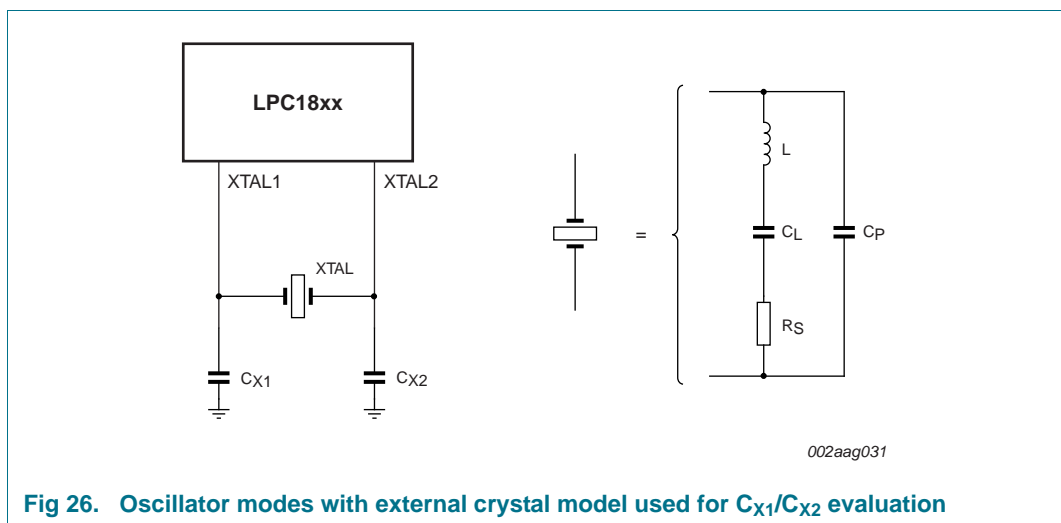

Fig 26. Oscillator modes with external crystal model used for C_{X1}/C_{X2} evaluation
- External components and models used in oscillation mode are shown in Figure 26, and in Table 22 and Table 23. Since the feedback resistance is integrated on chip, only a crystal and the capacitances C_{X1} and C_{X2} need to be connected externally in case of fundamental mode oscillation (the fundamental frequency is represented by L , C_L and R_s). Capacitance C_P in Figure 26 represents the parallel package capacitance and should not be larger than 7 pF. Parameters F_C , C_L , R_s and C_P are supplied by the crystal manufacturer.